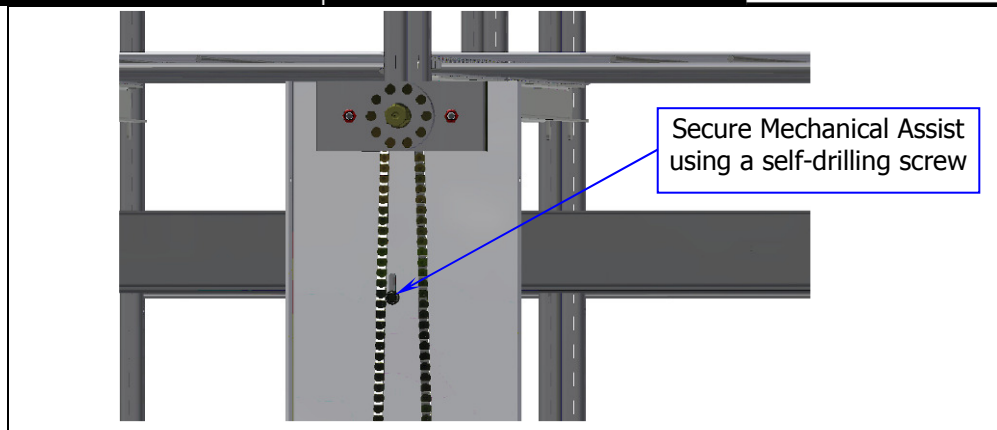

Figure 3: Secure Mechanical Assist to a centre shelving post
4. There is a slot at the back of the mechanical assist casing located approximately one foot down from the top. This slot allows you to mount and secure the mechanical assist unit to a centre shelving post on back-to-back units. When a single shelving unit is used, mount to a TRB Support. Three self-drilling screws are supplied for mounting (located in the Drive Handle Assembly box). See **Figure 3** below.